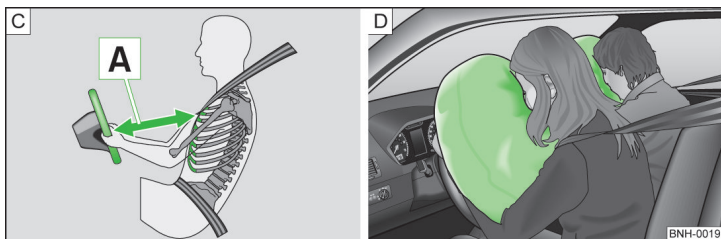

Fig. 9 Safe distance to steering wheel/gas-filled airbags
The airbags inflate in front of the driver and front passenger when they are deployed » Fig. 9 - D. The forward movement of the driver and of the front passenger is cushioned when they make contact with the fully inflated airbag and the risk of injury to head and chest is thus reduced.
- For the driver and front passenger, it is important to maintain a distance of at least 25 cm from the steering wheel or dashboard A » Fig. 9. Not maintaining this minimum distance will mean that the airbag system will not be able to properly protect you - hazard! The front seats and the head restraints must always also be correctly adjusted to match the body size of the occupant.